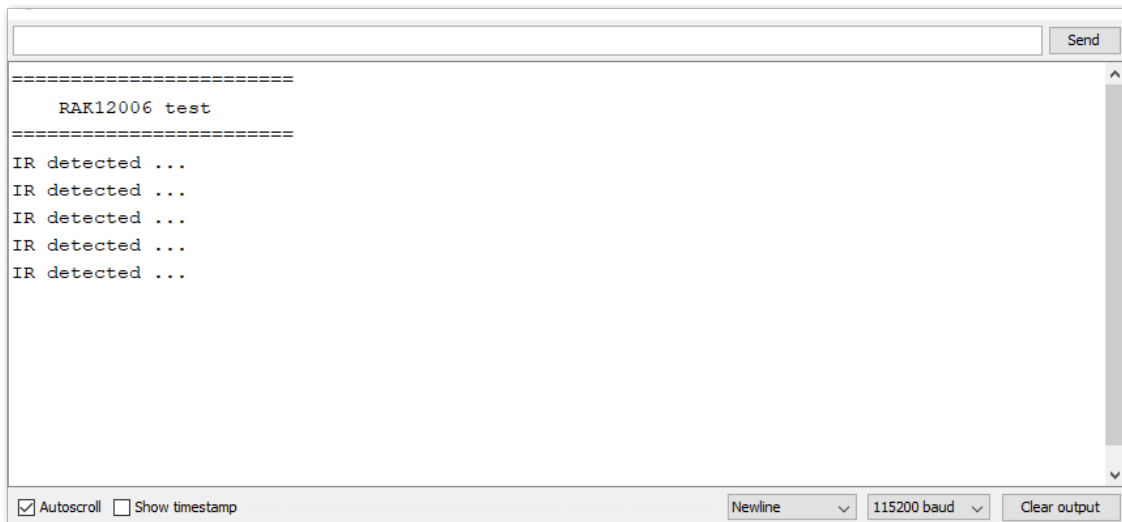

Figure 11: RAK12006 PIR detection readings
4. When you successfully uploaded the example sketch, open the Serial Monitor of the Arduino IDE to see the sensor's reading logs, as shown in **Figure 11**, and you will also see the green LED and blue LED from the WisBlock Base lights up whenever it detects motion based on changes in infrared light in the environment. Therefore, your RAK12006 is properly communicating to the WisBlock core.